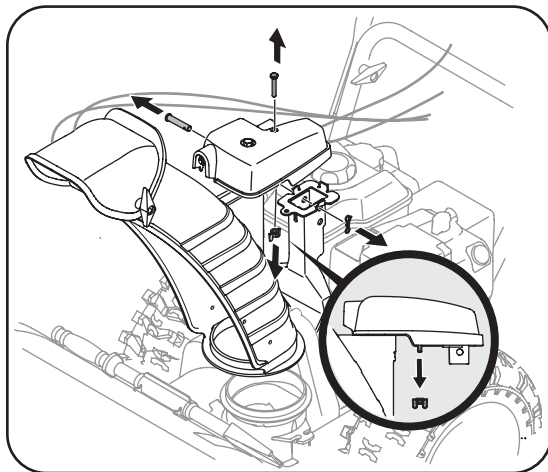

Figure 3-2
- Remove wing nut and hex screw from chute control assembly and clevis pin and cotter pin from chute support bracket. See Figure 3-2. Position the chute assembly (forward-facing) over the chute base.